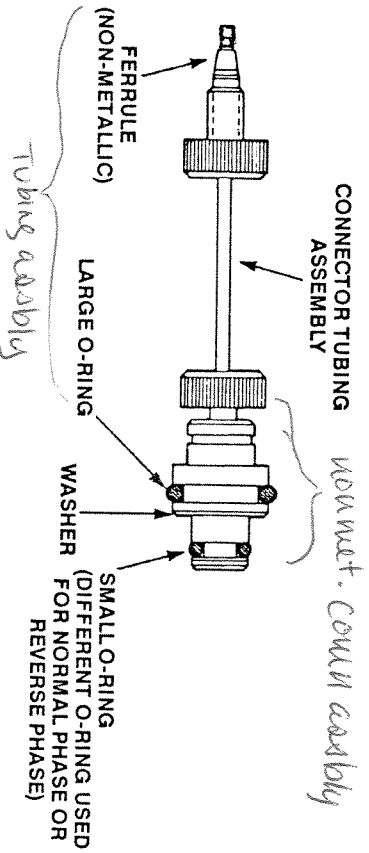

FIGURE 3-1 RCM 8 x 10 MODULE NON-METALLIC CONNECTOR ASSEMBLY
NOTE: When referring to the parts called out in Figures 3-1 and 3-2, refer to Appendix B for a listing of the associated replacement part numbers.
3. Place the washers on each connector before inserting a cartridge (Figure 3-1).